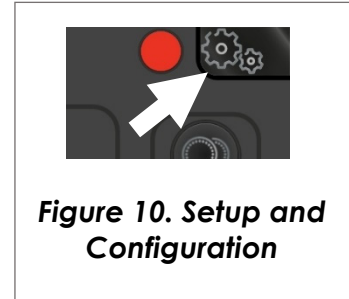

Figure 9. QR codes to obtain GLP Creative Light app
1. Download the GLP Creative Light app from the App Store (iOS) or Play Store (Android). Pointing your smartphone at the correct QR code for your smartphone in Figure 9 will take you to the app: